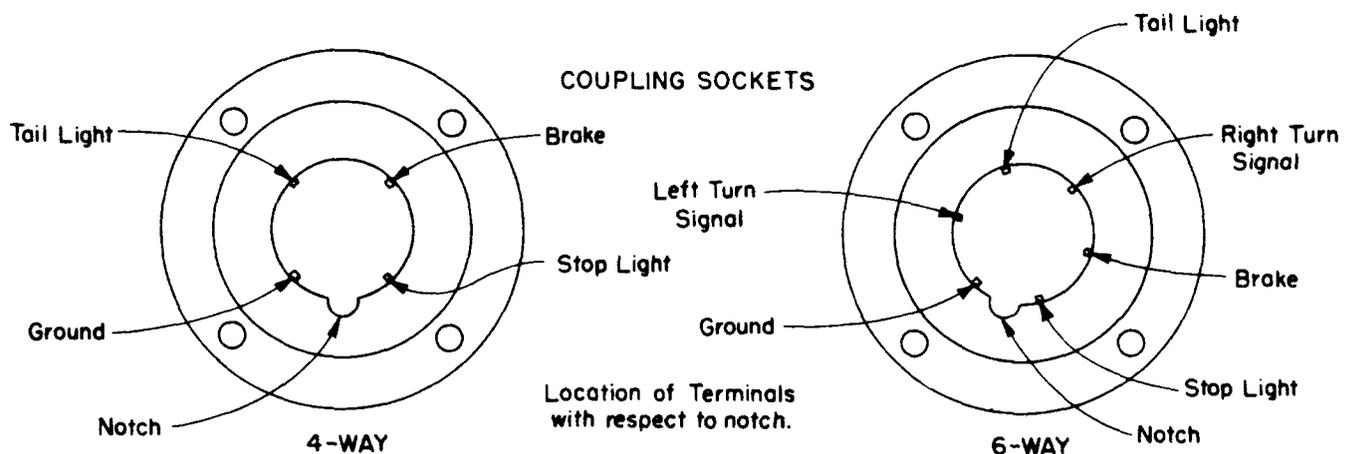

Fig. 3
6.03 After noting the reading "A" under 6.02 disconnect the test lamp from the ammeter and ground and connect its leads to the "Brake" and "Ground" blades inside the coupling socket at the rear of the truck. (For arrangement of blades inside socket see Figure 3.)